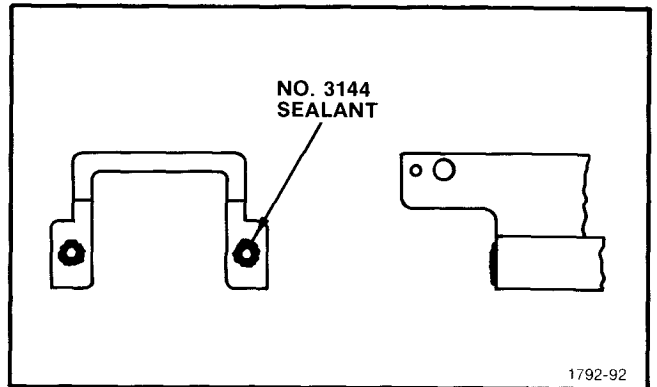

Fig. 5-39. Sealing of latch assembly screwholes.
33. Attach Latch Assemblies (2 ea.) to the Front Cover (See Fig. 5-39)
2. Apply No. 3144 sealant to the two screw-holes in each Latch Assembly as shown in Fig. 5-39.